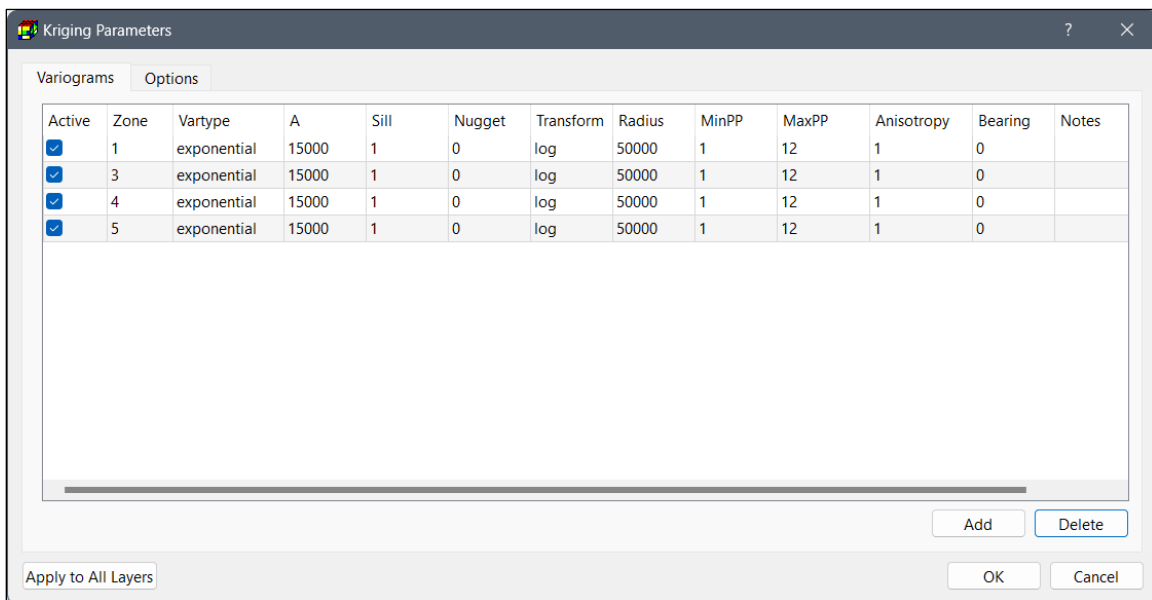
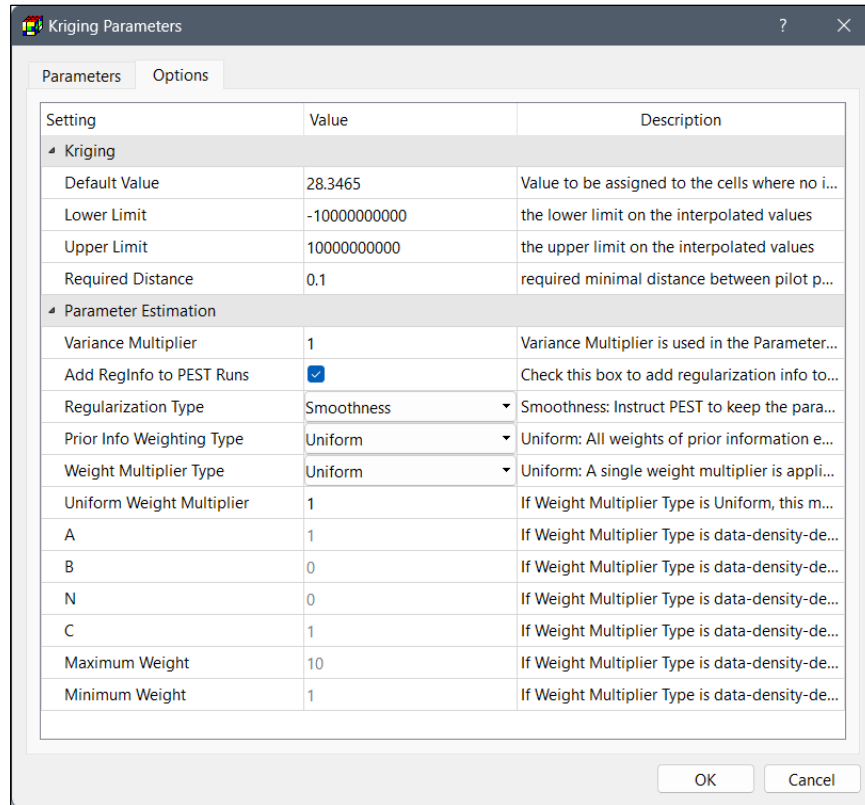

Figure 30. The Variogram tab of the Kriging Parameters dialog box
Figure 31. The Options tab of the Kriging Parameters dialog box
The Kriging Parameters dialog box (Figure 30) is used to enter the parameters required by the ppk2fac1 and fac2real programs. The Parameter Estimation section of the Options tab (Figure 31) control how the Pilot Points method is integrated with PEST.
1. Variogram Tab (Figure 30): This tab is used to define variograms for the subareas in the current model layer. The columns of the table are as follows.
- **MinPP:** This is the minimum number of pilot points to use for interpolation of pilot point values to model cells. If the selected Kriging Tool is “ppk2fac1 & fac2real” and the search radius is not large enough to include this number of pilot points, no kriging factor will be calculated for that cell and the *Default Value* in the Options tab (Figure 31) will be assigned as the interpolated hydraulic property to that cell. If the selected Kriging Tool is “PLPROC” and the search radius is not large enough to include this number of pilot points, PLPROC reports the error, and then ceases execution.
2. Options Tab (Figure 31)